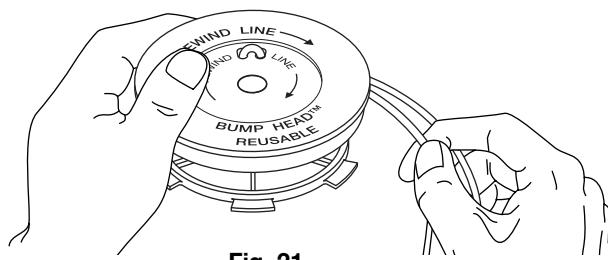

Fig. 21
7. Wind the lines in tight even layers, onto the reel (Fig. 21). Wind the line in the direction indicated on the inner reel. Place your index finger between the two lines to stop the lines from overlapping. Do not overlap the ends of the line. Proceed to step 11.